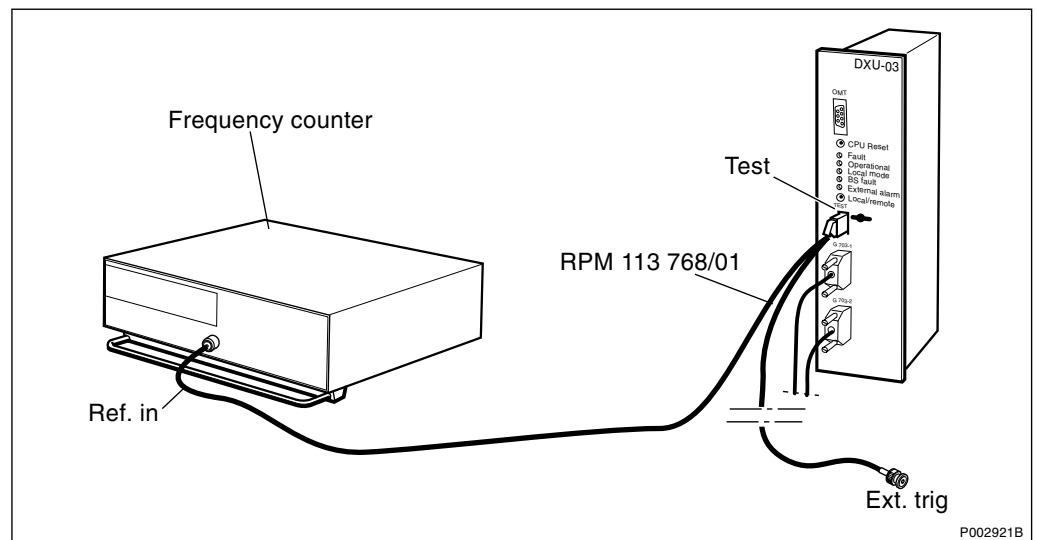

Figure 234 Connection of the frequency counter to DXU-03
1. Connect the frequency counter input A to the Test connector on the DXU-03, see Figure 234 on page 391.